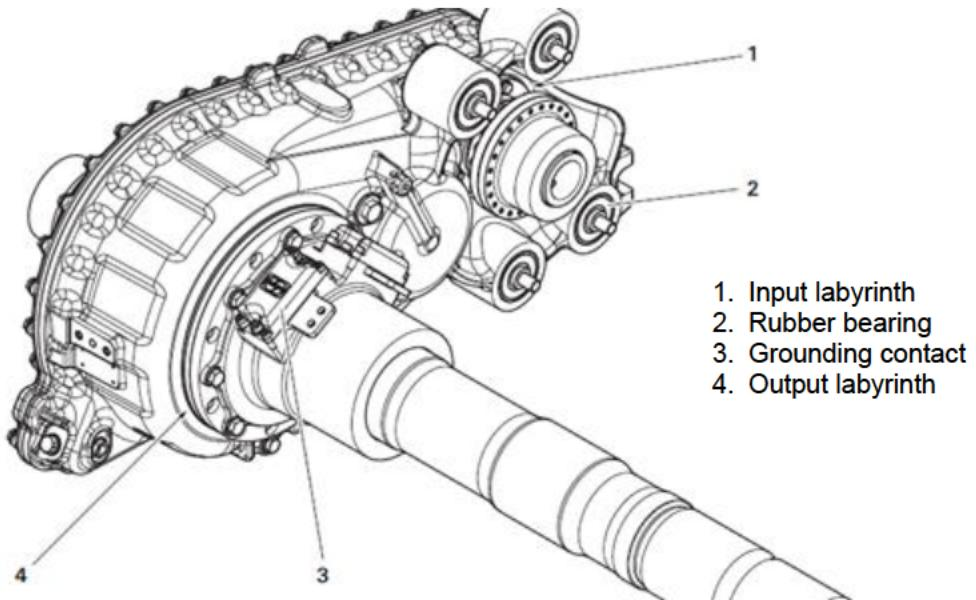

Figure 4-12: Critical Cleaning Spots
1. Clean gear unit housing with warm or cold water jet, hot steam. The critical cleaning spots are outlined in Figure 4-12.